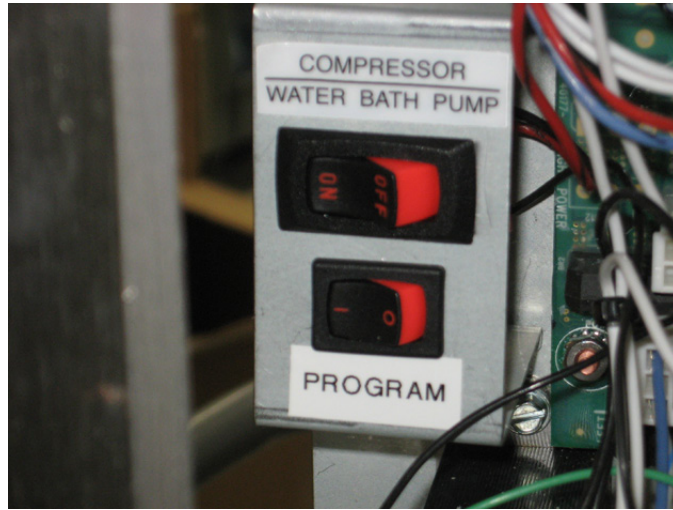

FIG 7 Refrigeration Switch
4. Set the Program Switch (Fig. 7) to the ON position. (On older models without program switch, set the Dispense Lockout Switch (Fig. 13) to the OFF position)
7. Turn ON the refrigeration switch near the main control board (Fig. 7). This will start the water bath pump circulation.